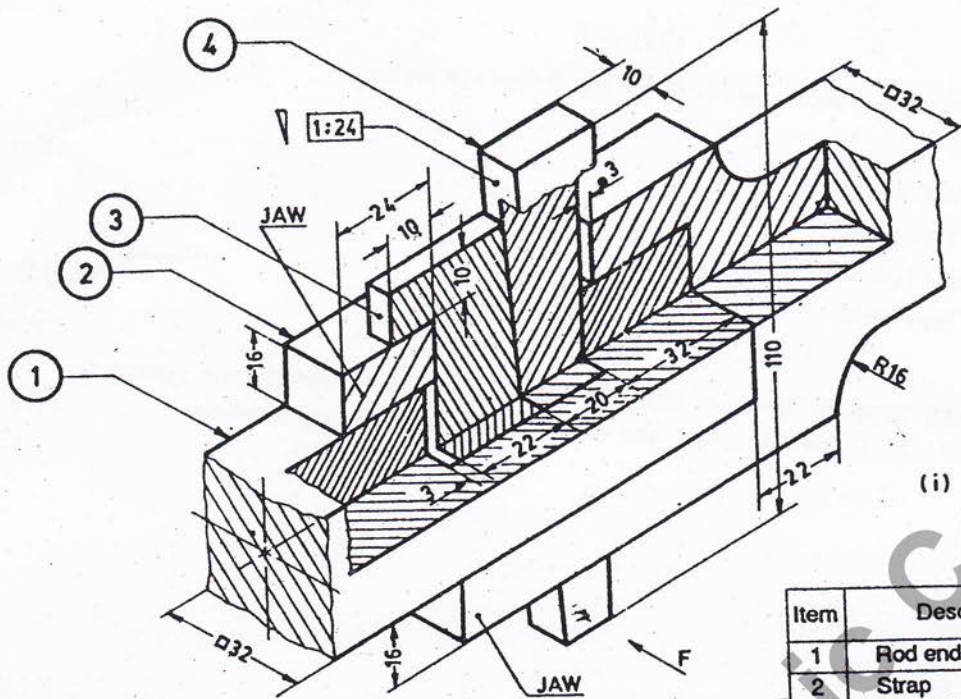

FIG. 1
- III Isometric view of Gib and cotter joint is shown in figure 1. Draw the following views :